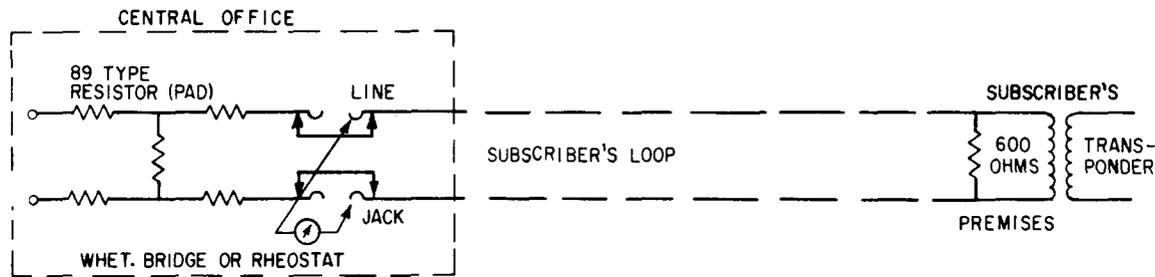

Fig. 1 — Measurement of Loop DC Resistance
**3.01** The resistance of each loop should be measured from its LINE jack at the central office with a Wheatstone Bridge or rheostat on the local test desk as shown in Fig. 1. The resistance should include the 600-ohm termination placed by the Telephone Company and located at the subscriber's premises. *IF* the transponder is installed by ARB, its resistance of about 540 ohms will be in parallel with the Telephone Company termination and this should not be overlooked. The resulting resistance of each loop measured on the circuit order test should be filed with the circuit order card or sketch for future reference.
- (6) If possible, isolate the trouble to a specific office.
- (7) Monitor the loops at the LINE jacks for excessive noise. If a 2B Set is available, measure the noise at the same jack. The noise should not exceed 35 dba.
- (8) Check the subscriber loop for a ground.
- (9) If all loops are noisy, check central office for recent rearrangements in central office power plant.
- (10) Measure loop resistance as shown in Fig. 1.
- (11) Remove connections to transponder on 11C connector at customer's premises.